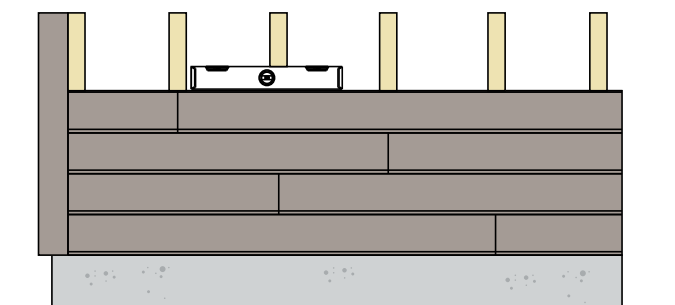

Fig. 25
- Check the level of the boards every 3rd or 4th row. A variance from 1/16" to 1/8" is considered acceptable. (See Figure 25)